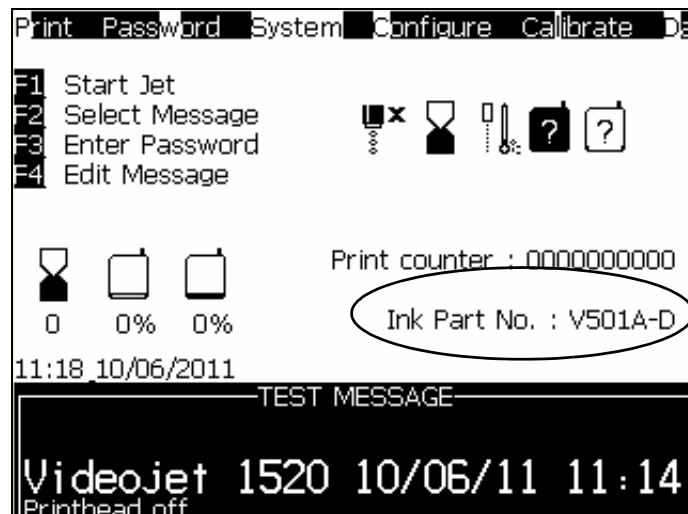

Figure 4-15: Ink Part Number
- b. Make sure that the part number on the ink cartridge matches with the part number displayed on the screen. Record the part number. (See Figure 4-15 on page 4-14).